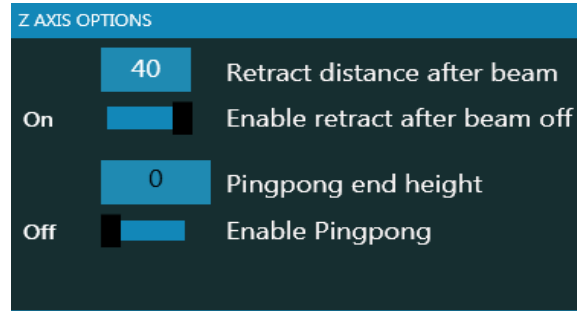

Figure 46
2. If “**Enable retract after beam off**” function is enabled as **Figure 46** the cutting head will be raised up vertically to setting position only (for example 40 mm from the sheet) and then will be moved in parallel to the sheet metal and finally will be gone down vertically on next contour lead-in position (from A to B vertical movement as **Figure 48**).